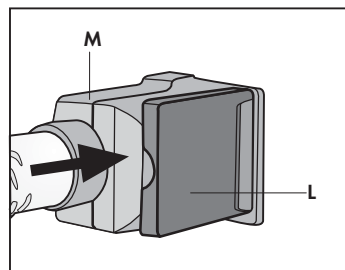

Fig. 22
- Close the accessory socket door (L) so that it rests on the body of the quick connection and check that the two elements are properly engaged. **(Fig. 22).**